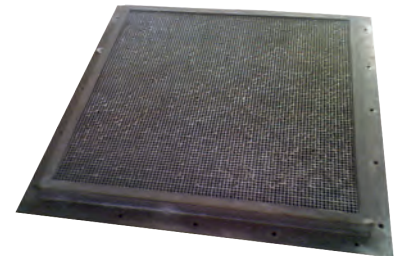

Figure 82: Picture of a EMP proof Honeycomb ventilation panel
- 82** The standard cost-effective honeycomb is made of aluminum but **for special applications like EMP** it can also be made out of mild steel, which is more expensive. (Fig. 82)